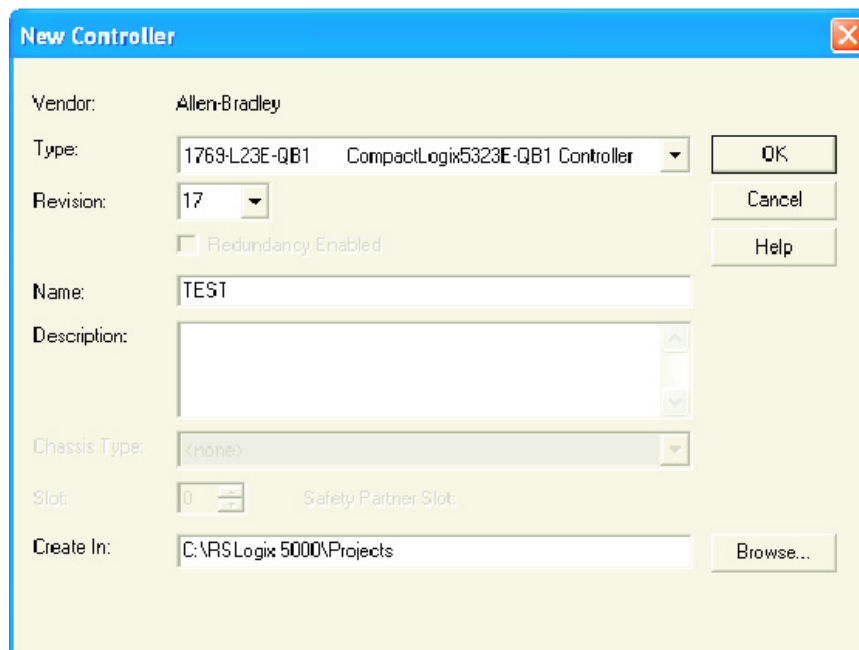

Figure 10-6: New Controller
1. In the 'File' menu select 'New', or click on the 'New Tool' icon. The 'New Controller' window opens (Figure 10-6).